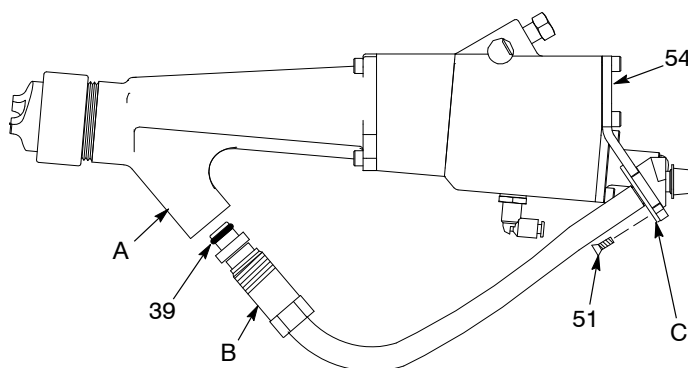

Figure 7-7 Fluid Supply Hose Replacement
3. See Figure 7-7. Remove the two flat-head screws (51) that attach the fluid hose collar (C) to the bracket (54).
5. Loosen the hose retaining nut (B) at the extension inlet (A), and unscrew it completely.
2. See Figure 7-7. Inspect the O-ring (39) on the gun end fitting. Replace if necessary.
4. Push the end fitting into the extension fluid inlet boss (A).
5. Apply dielectric grease to the threads of the retaining nut (B) then screw the retaining nut into the extension. Do not overtighten.
6. Install the fluid hose collar (C) into the bracket (54).
7. Tighten the two flat-head screws (51) at the bracket to secure the hose.